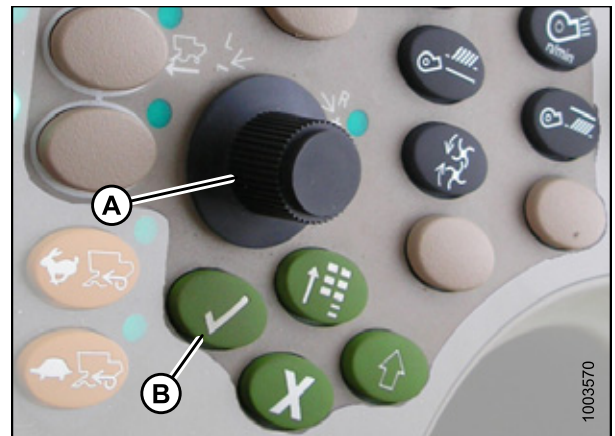

Figure 6.133: John Deere Combine Control Console
6. Select HEADER in box (A) by scrolling down to the box using the scroll knob, and then pressing the check mark button (knob and button are shown in Figure 6.133: John Deere Combine Control Console, page 207).
7. Scroll down to the lower right icon that resembles an arrow in a diamond (B) and press the check mark button to select it.